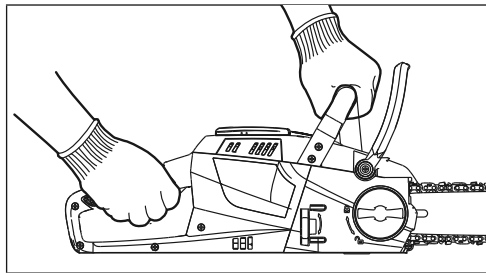

FIG. 6
- A chainsaw is intended for two handed use. Serious injury to the operator, helpers, and/or bystanders can result from onehanded operation (Fig. 6).